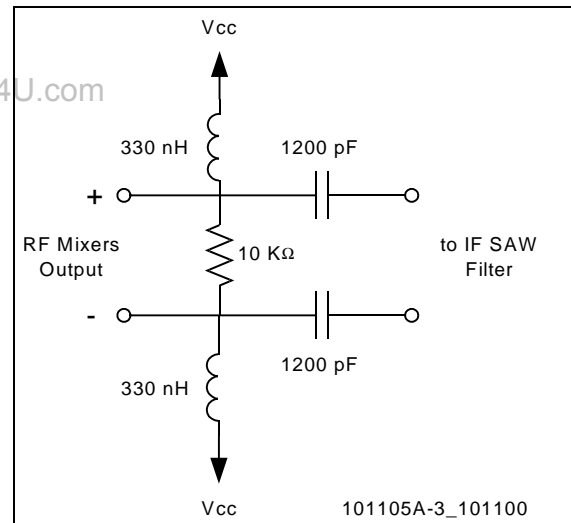

Figure 3. RF Mixer Load Configuration
**Low Noise Amplifiers:** The CX74036 contains two independent LNAs for the cellular and PCS bands. The gain of both LNAs can be switched off to a loss mode via one command line interface. Only one LNA is powered at any given time. Control is done by an external band-select control signal. The input and output matches are external to the chip. The LNAs' parameters, Noise Figure (NF), and gain are chosen to provide an excellent balance between system sensitivity and IIP3 requirements to achieve maximum dynamic range. Both LNA outputs are ported off-chip to allow for image filtering before being fed to the RF mixer inputs.
**RF Mixers:** The mixers are designed to operate with a low LO input power level of  $-10$  dBm. This eliminates the requirement of buffer amplifiers for the external VCO. Cellular band mixer high gain and low NF performance allow for the cellular LNA gain to be lower, which saves current consumption. Both mixers are designed to provide high suppression of one-half IF response. The outputs of both mixers share a common interface path to the external IF Surface Acoustic Wave (SAW) filter, which reduces complexity and cost. The RF mixer load configuration is shown in Figure 3. Inductors can be Surface Mount Multilayer Chip (SMMC) components.